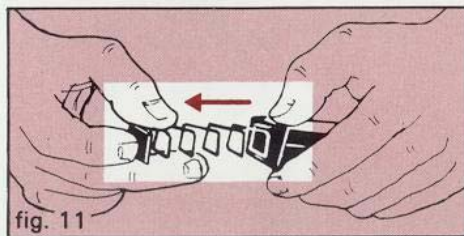

fig. 11
6. Using both hands, ease spring and follower out of housing (fig.11).